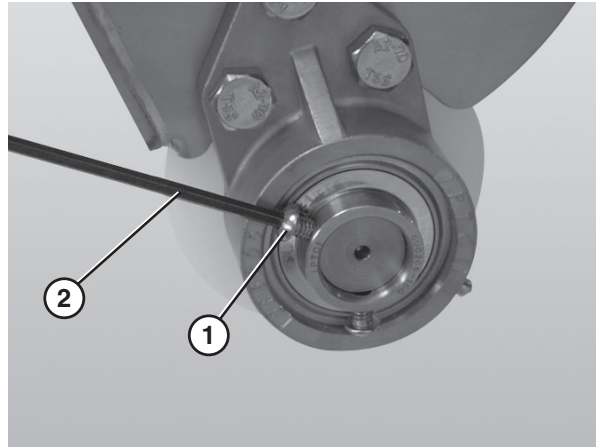

Figure 84
5. Tighten the 3 hole flange with bearing fasteners (**Figure 84, item 1**) using a hex wrench (**Figure 84, item 2**).